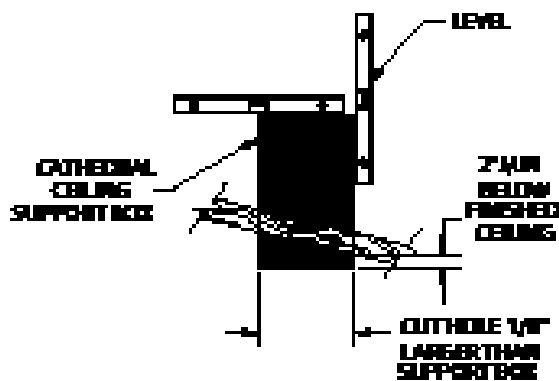

Figure 20
Step 4. Lower the Support Box through the hole in the roof until Support Box protrudes at least 2-inches below the low side of the ceiling (Fig. 20). Align the Support Box both vertically and horizontally with a level. Temporarily tack the Support Box in place through the inside walls and into the roof sheathing.